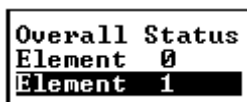

Figure 3-10: Power Supply
- **Power Supply:** - This option will show the user the status of the PSUs that are used inside the enclosure. If selected the menu in *Figure 3-10* will appear.